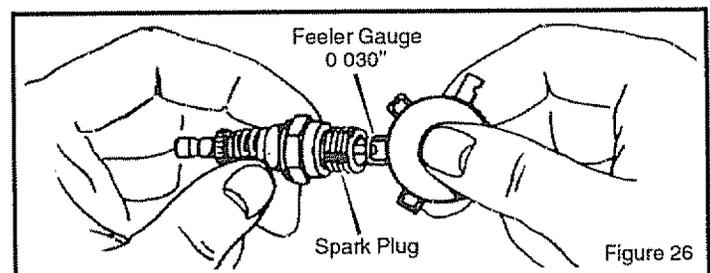

Figure 26
1. Check the gap of the **spark plug** with a **feeler gauge** (Figure 26). The correct gap is 0.030".